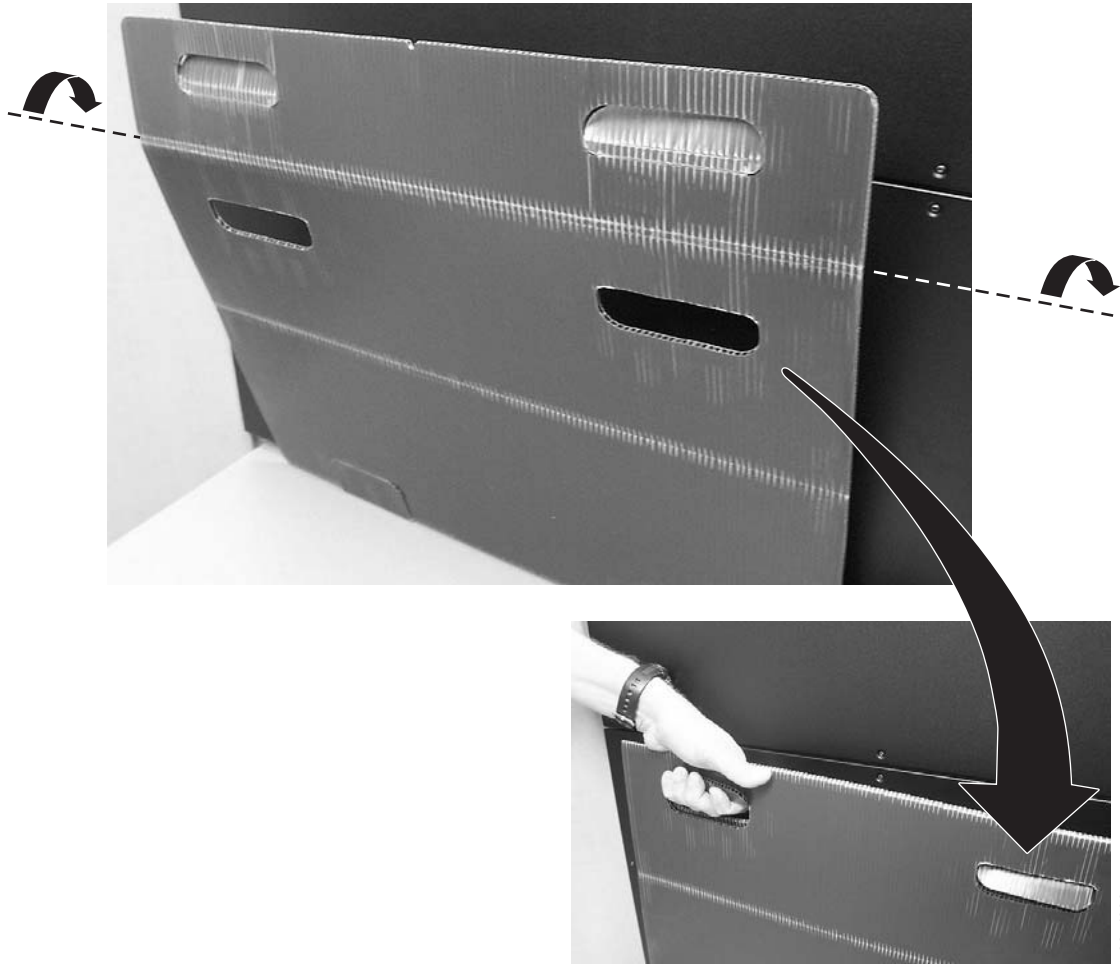

Figure 3-24. Sling handles folded properly
2. With a person on each side of the module, lift the module with the sling provided (see Figure 3-24 on page 3-23).